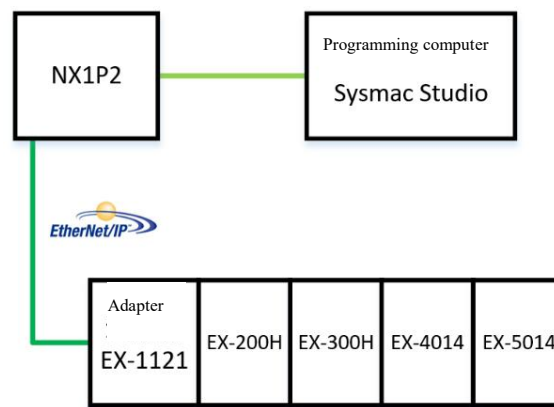

Figure 5-7-24 Communication connection diagram
1. Communication connection diagram, as shown in Figure 5-7-24